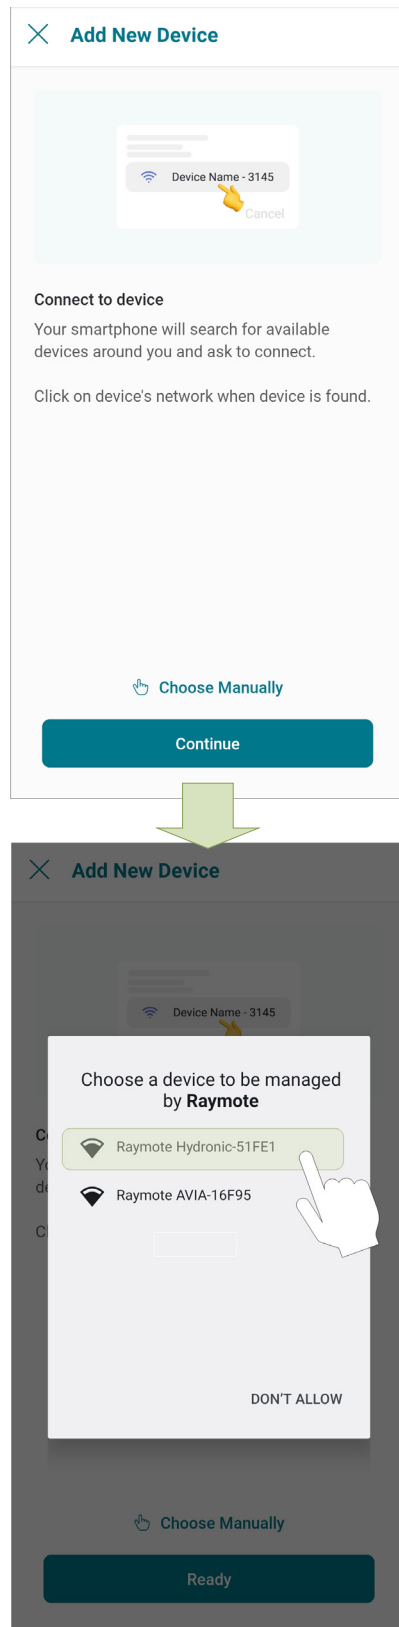

Figure 84. Connect with Android Smart Phone
3. **In Android:** Depending on your configuration, one or more devices will appear on the app. Select the HOTSPOT identifier that matches the unit's display as shown in **Figure 84**.